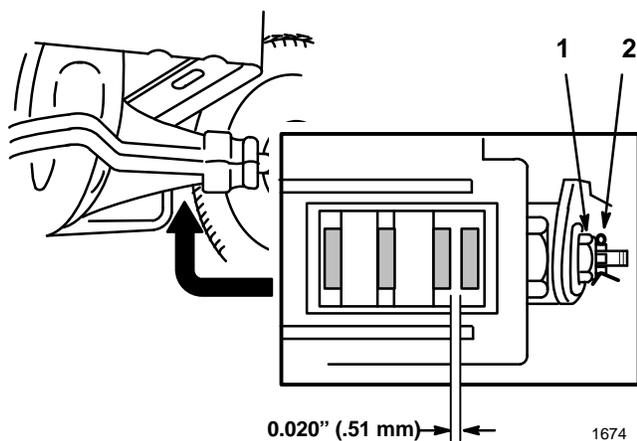

Figure 15
The brake is on the right side of the rear axle, inside the rear tire (Fig. 15). If the parking brake does not hold securely, an adjustment is required.
3. To adjust the brake remove the cotter pin and loosen the brake adjusting nut slightly (Fig. 15).
4. Carefully insert a 0.020" (.51 mm) feeler gauge between the two outer brake pads (Fig. 15).